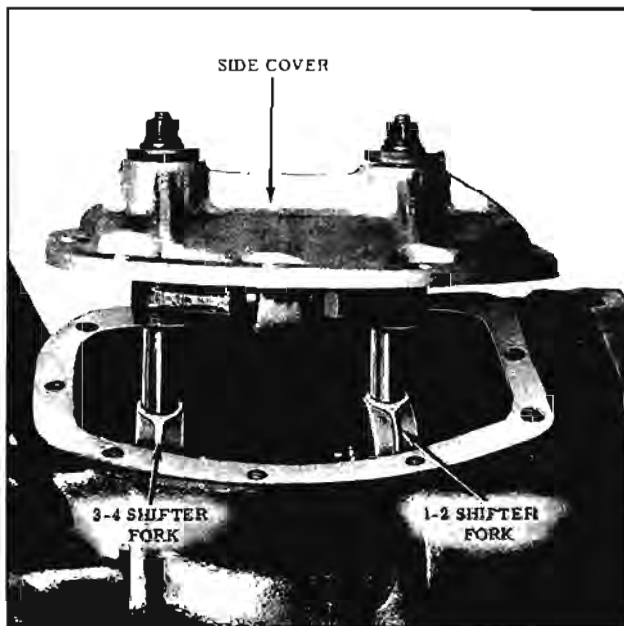

Fig. 11-214 Side Cover Removal
3. Remove the nine side cover bolts, cover, and gasket. (Fig. 11-214)